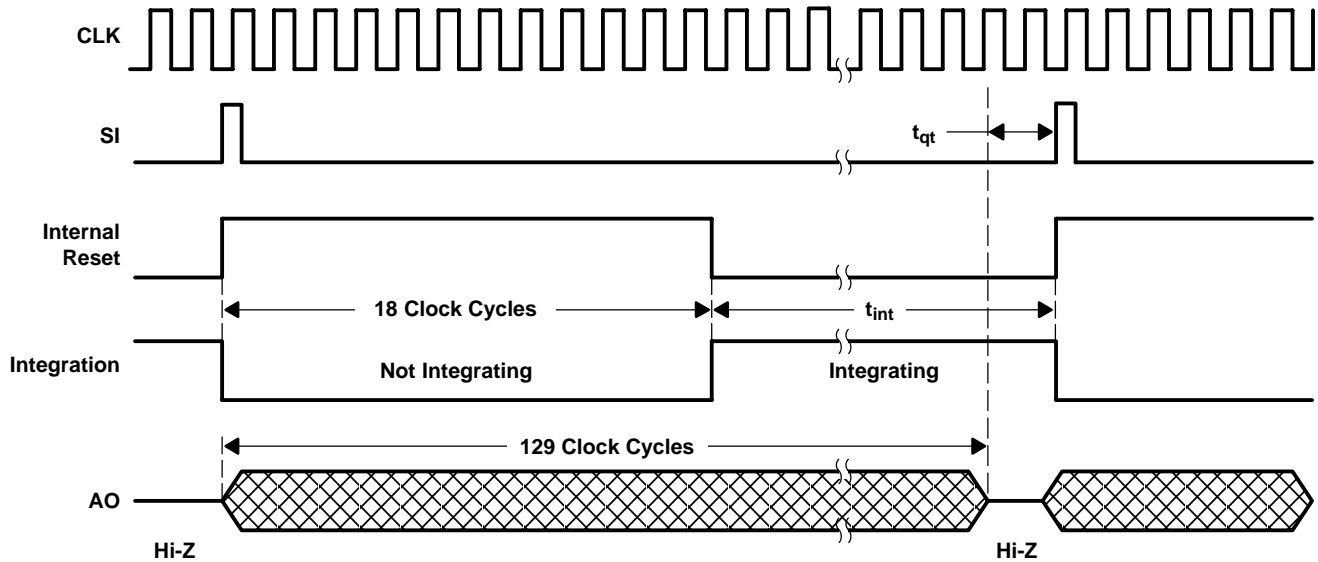

Figure 1. Timing Waveforms
**Recommended Operating Conditions (see Figure 1 and Figure 2)**
### Timing Requirements (see Figure 1 and Figure 2)